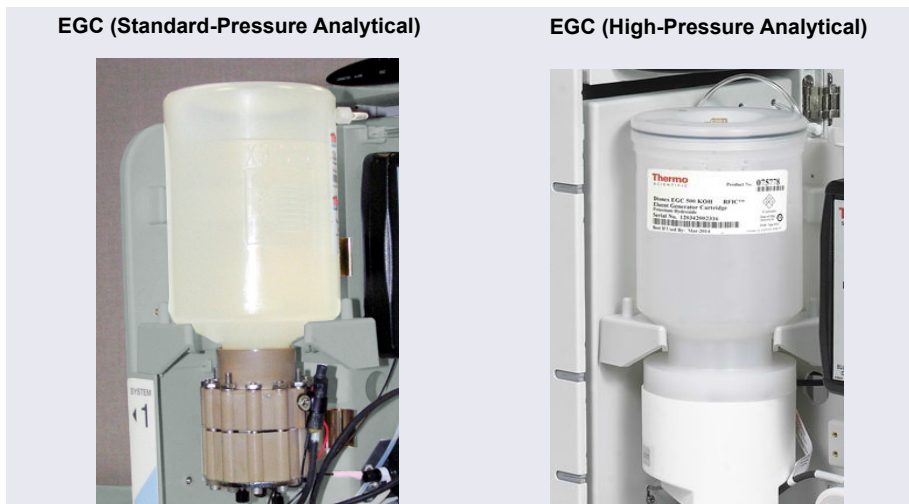

Figure 10-26. Analytical Dionex EGC Installed in Holder
- Slide the Dionex EGC (with the electrolyte reservoir on top) into the holder in the EG (see Figure 10-26).